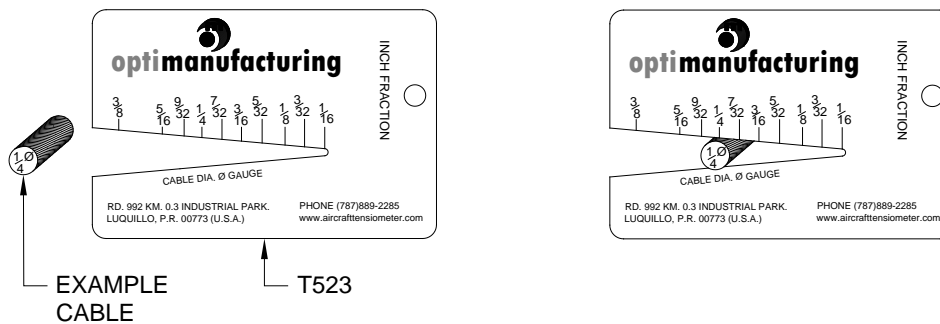

Figure 3-Cable Size Gauge
- Confirm cable size being tested using the supplied Cable Size, Gauge, P/N T523.(See Figure 3)